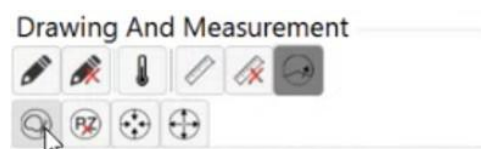

Figure 41: Drawing and Measurement tool area
- For global application to all slices, the Contract and Expand buttons are located in the **Drawing and Measurement** tool area (Figure 41).